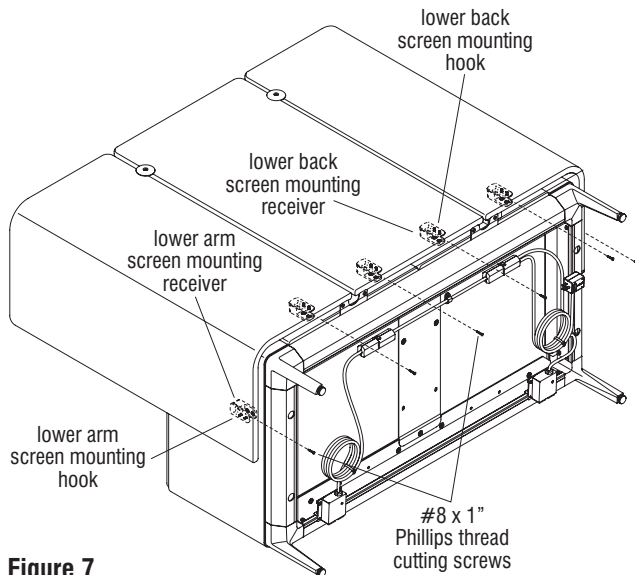

Figure 7
3. Carefully lay the lounge assembly onto its front, on a clean, protective surface (Figure 7).
4. With the bottom of the lounge exposed, secure the lower screen mounting receivers to the lower screen mounting hooks using a #8 x 1" Phillips thread cutting screw per receiver. Tighten the screws but take care to not over tighten (Figure 7 & Detail L).